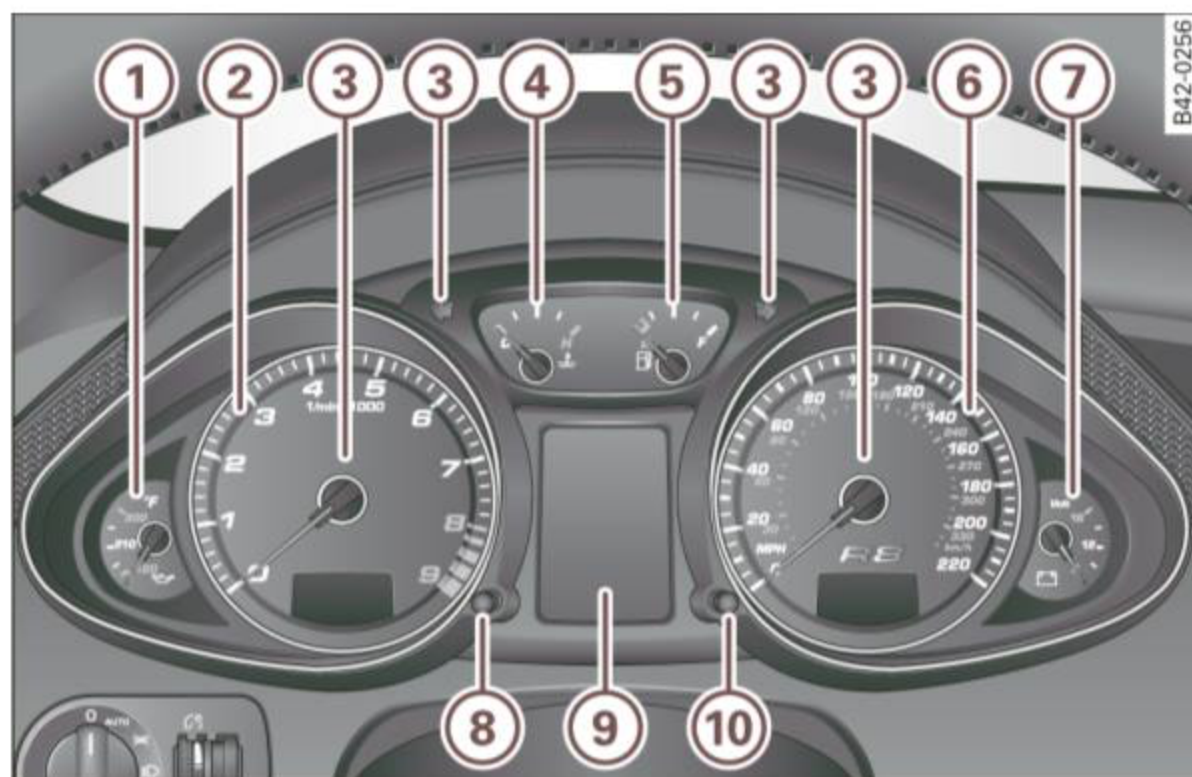

Fig. 2 Overview of the instrument cluster
The engine oil temperature display ⇒ fig. 2 only operates with the ignition on. To prevent engine damage, please observe the following important points concerning the temperature ranges.
The needle in the tachometer ⇒ *page 8, fig. 2* (2) may only be in the red area of the gauge for a short time or the engine could be damaged. The location where the red zone begins varies depending on the engine. ■
With the ignition off, pushing or pulling the Set/Check button ⇒ *page 8, fig. 2* (8) can turn on the display field lighting for a few seconds. ■
The engine coolant gauge ⇒ *page 8, fig. 2* (4) only works when the ignition is on. To prevent damage to your engine, please note the following important points. ►
With the ignition off, pushing of the Set/Check button ⇒ page 8, fig. 2 ⑧ can turn on the display field lighting for a few seconds.